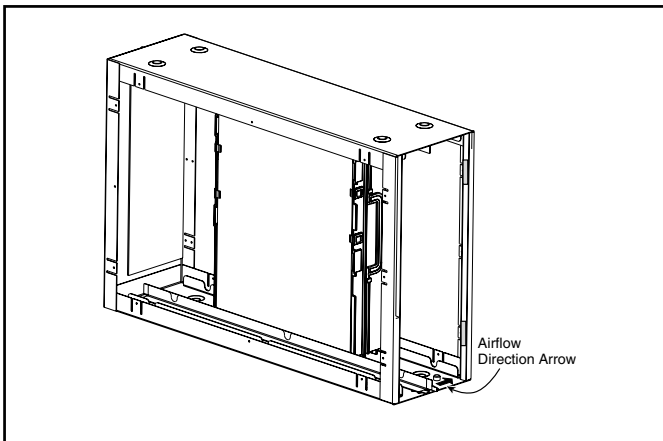

Figure 8 Airflow Direction
4. Install the air cleaner such that the airflow direction arrow on the cabinet always points towards the furnace/ air handler. See Figure 8.